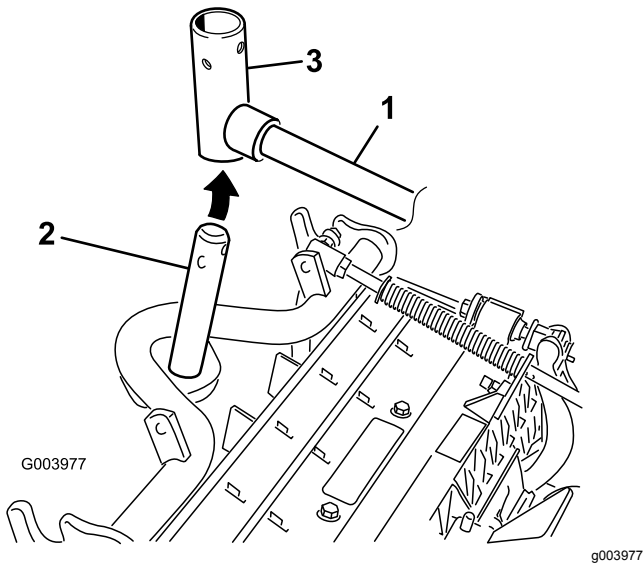

Figure 11
8. For the front cutting units, slide a cutting unit under the lift arm while inserting the carrier-frame shaft up into the lift-arm-pivot yoke (Figure 11).
B. Insert the lift-arm yoke onto the carrier-frame shaft (Figure 11).